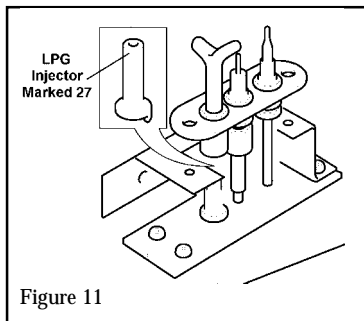

Figure 11
11. Remove the pilot injector. Replace with LPG injector. See figure 11.